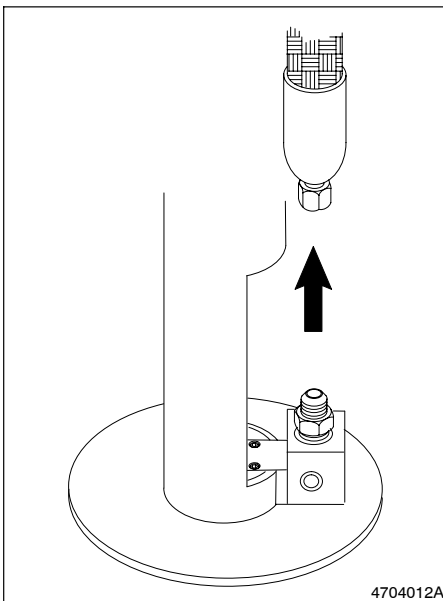

Fig. 7-16 Removing the Hose from the Manifold
9. See Figure 7-16. Remove the hose(s) from the hose connector(s) at the manifold.